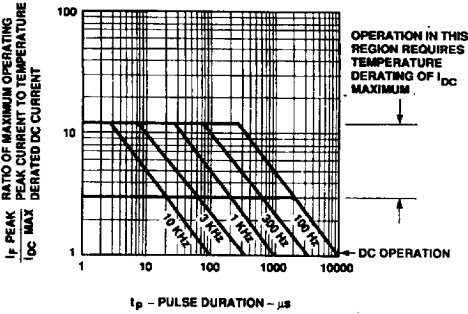

Figure 9. Maximum Tolerable Peak Current vs. Pulse Duration - Green.
9. See Figure 9 to establish pulsed conditions.